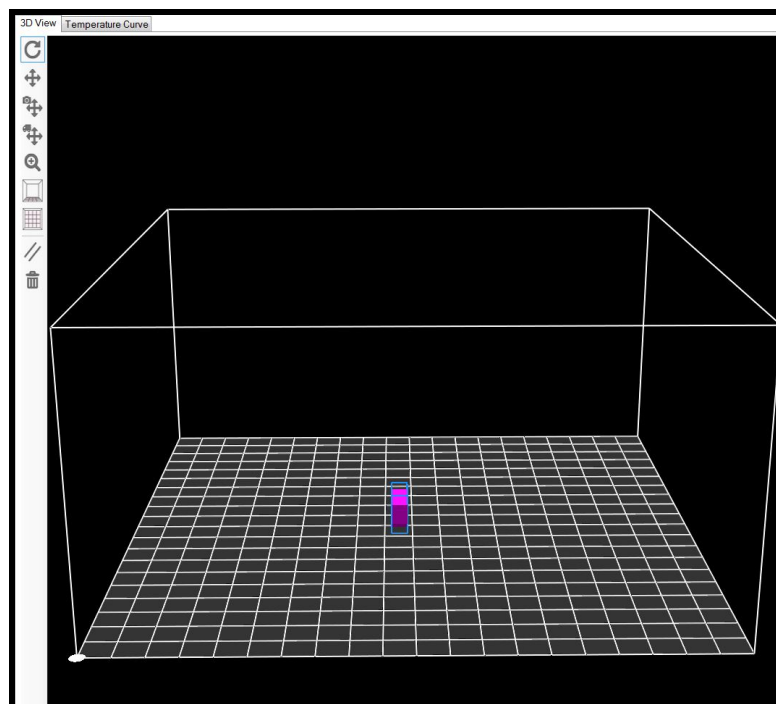

Figure 3.9: Gear Insert in 3D Viewer
54. Open Repetier Host. Load the **Load Insert.stl** file from the website into the Repetier Host program. Figure 3.9 shows the part as it should appear in the 3D viewer.